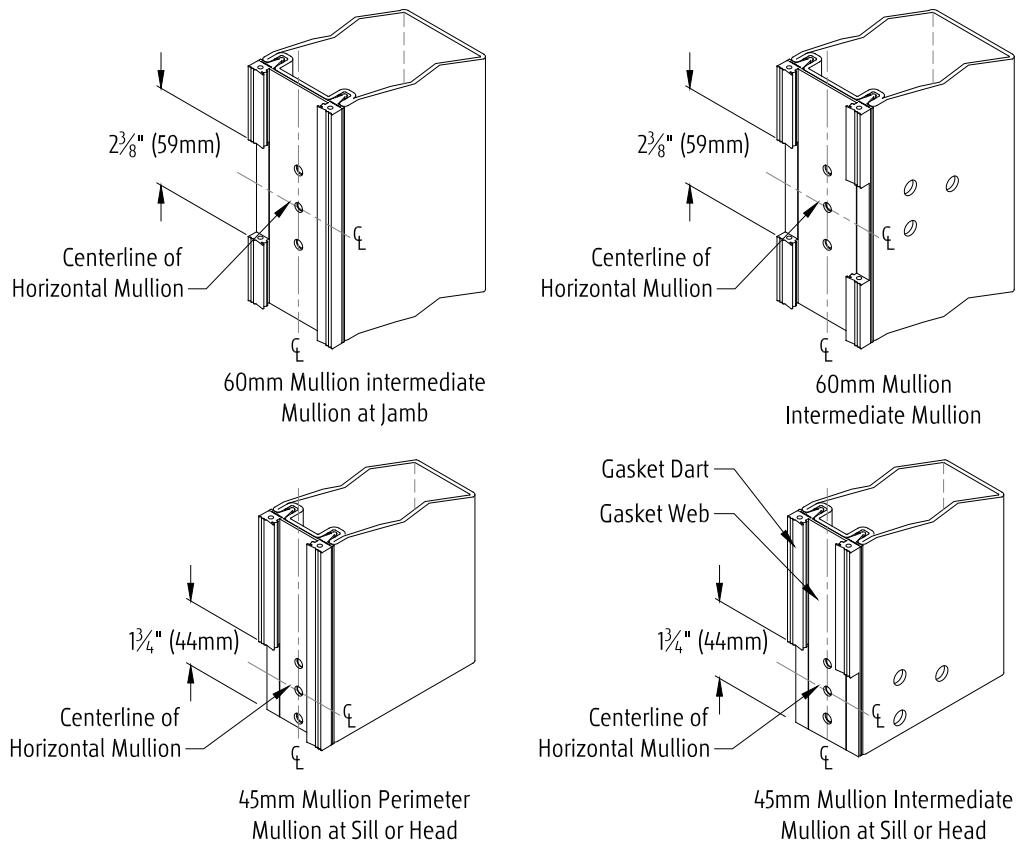

Figure 12 - Vertical Mullion Gasket Notching
- Tighten M6 fasteners until seated in countersunk end of the slots (Figure 12).